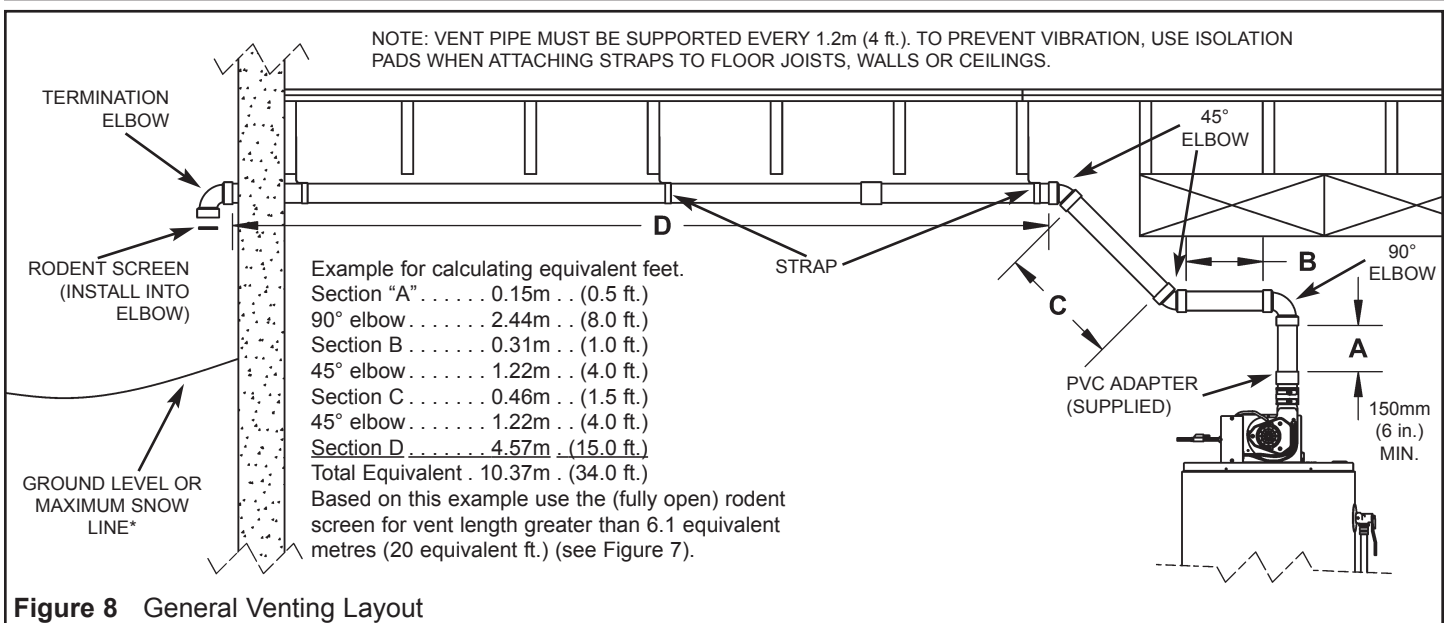
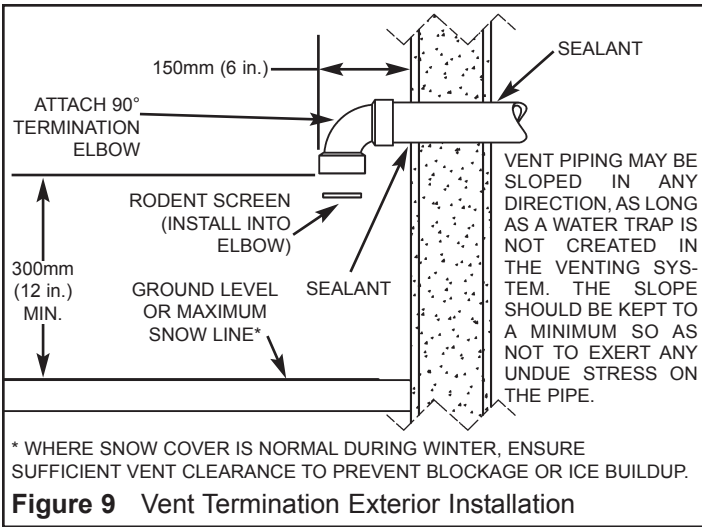
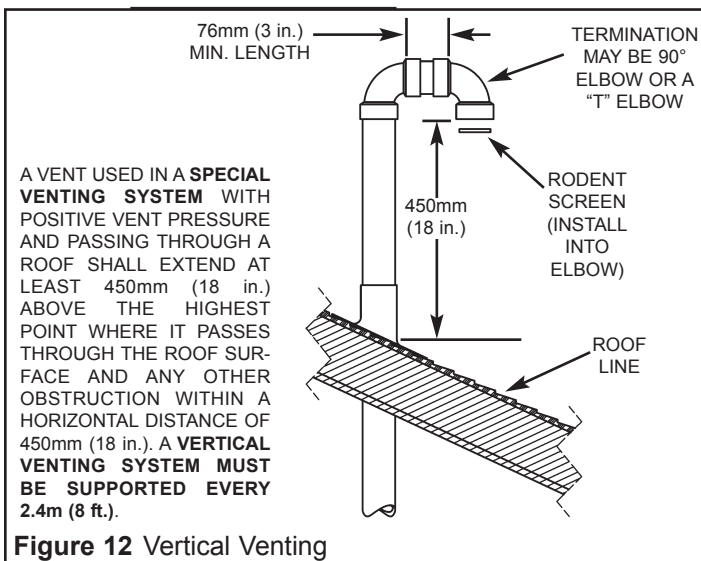
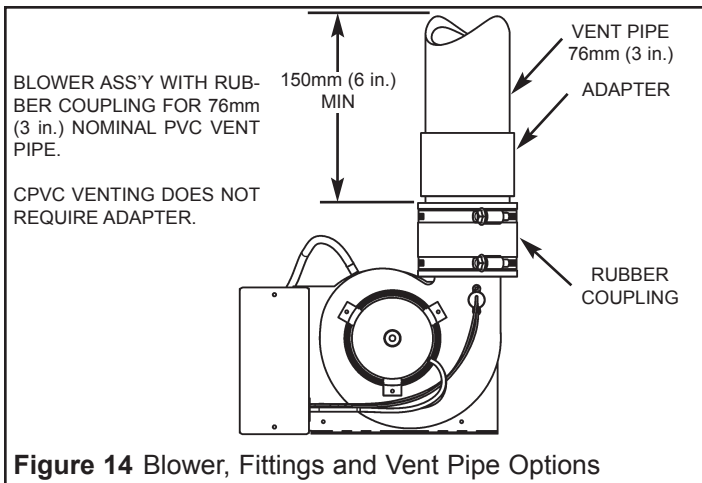

Figure 8 General Venting Layout
Figure 9 Vent Termination Exterior Installation
Figure 12 Vertical Venting
Figure 14 Blower, Fittings and Vent Pipe Options
This heater is designed to exhaust the products of combustion (flue gases) to the outdoors using a sealed piping system. Table 2 lists the allowable vent materials and sizing information. Figure 8 shows the general venting layout while Figures 9-12 show various end termination details and clearances. Connection of the venting piping to the blower is shown in Figure 14.
- Refer to Figure 8 and Table 2 for vent pipe materials and sizing and Figure 11 for vent termination clearances. Examples of the vent terminations are shown in Figures 9 and 10. If the installation requires a vent riser, suitable drainage must be provided to ensure condensation does not accumulate. Termination through a roof is shown Figure 12.
- The screen is required to keep foreign objects, rodents and small birds from entering the venting system and only one (1) screen is to be installed in the termination elbow. These screens have been sized to ensure maximum energy efficiency of the venting system based on the "equivalent length" of the vent piping. How to determine the equivalent length is shown in Figure 8. The appropriate screen is to be installed into the end of the termination elbow and secured with a small amount of silicone sealant. This will allow for easy removal for inspection and cleaning.
6. Calculate "Equivalent Vent Length" before starting. Do not exceed the values shown in Table 2. An example of how this length is determined is shown in Figure 8. The value from your calculations should also be used to determine which rodent screen to install into the vent termination elbow.